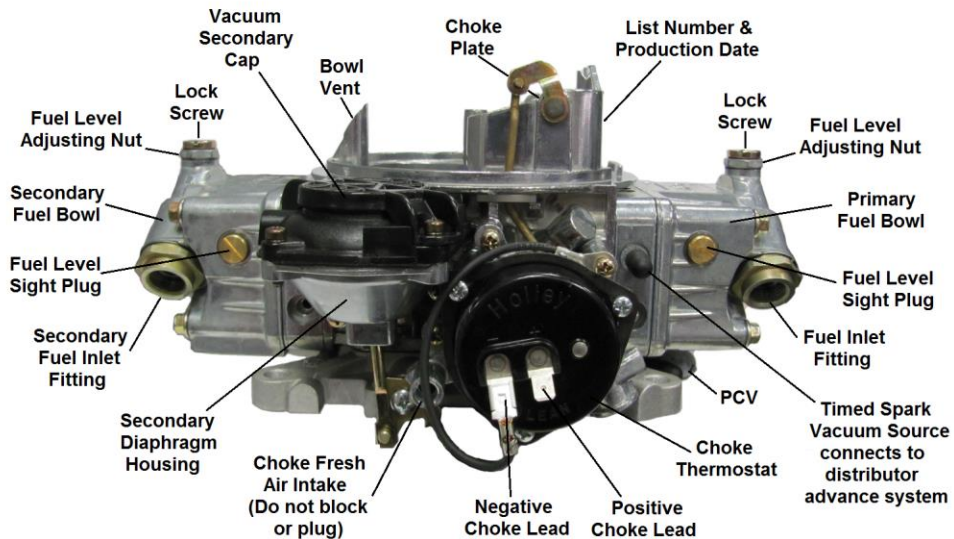

Figure 6
6. Reconnect the appropriate vacuum hoses to the carburetor, noting the correct fitting from Figures 6 and 8.
8. Connect the power brake hose to the fitting as shown in Figures 6 or 8.